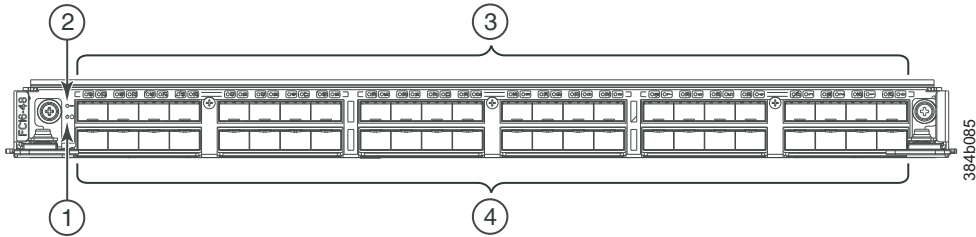

Figure 54. FC16-48 port blade
- Figure 54 on page 142 shows an FC16-48 port blade